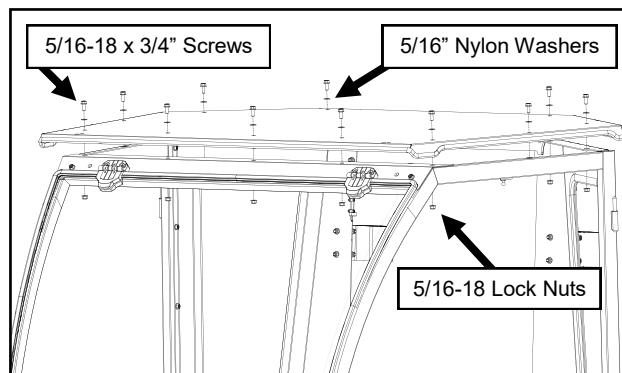
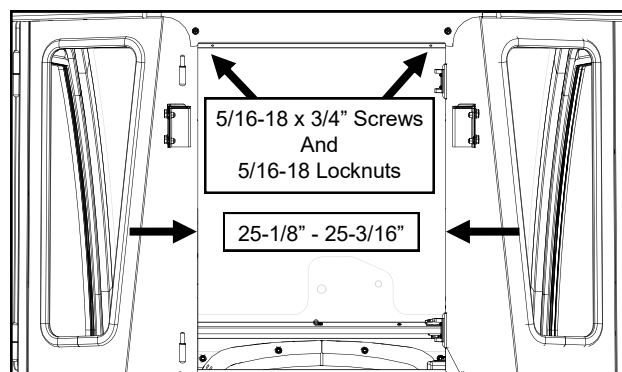

Fig. 14.1 (Roof Fasteners)
Fig. 14.2 (Rear Leg Opening)
- 14.1 With assistance, set the roof on top of the cab. Loosely secure with the hardware listed below. See Figures 14.1 and 14.2. Nylon washers are not used on the rear fasteners depicted in Figure 14.2.
- 14.2 Once all roof fasteners are started, measure the width of the opening between rear legs. Adjust the width if needed, to 25-1/8" - 25-3/16". See Figure 14.2.